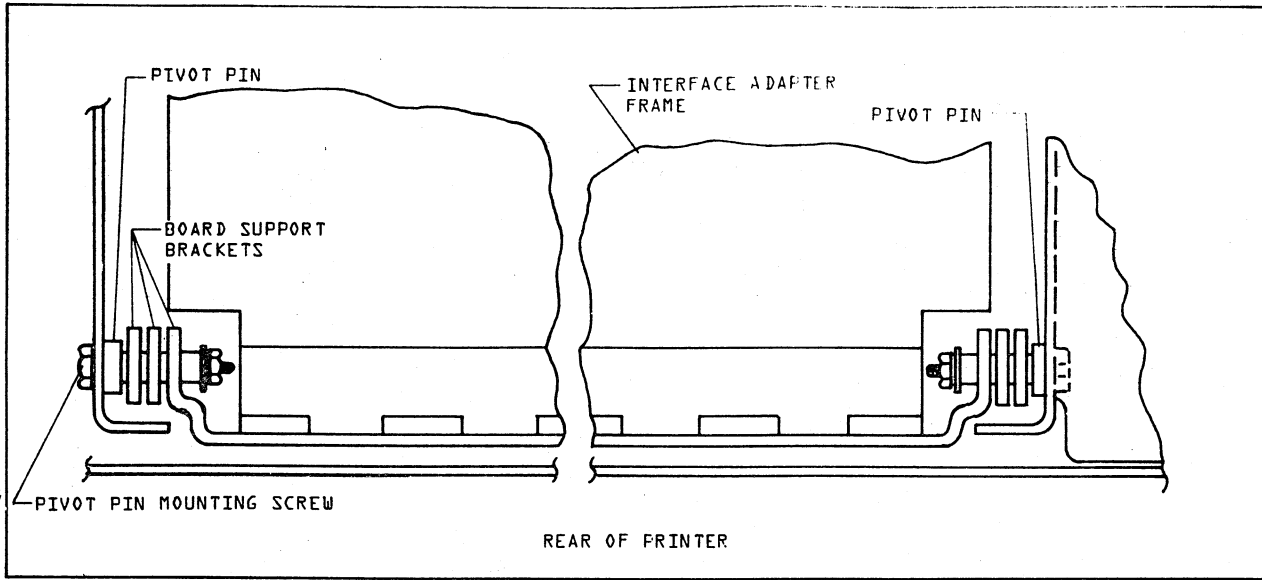

FIGURE 2-2 INTERFACE ADAPTER FRAME INSTALLATION
6. At the rear of the printer remove the two pivot pin mounting screws and their associated nuts and washers (Figure 2-2).
7. Install the Interface Adapter Frame and its support bracket onto the two pivot pins and remount the pivot pins with existing hardware (Figure 2-2).